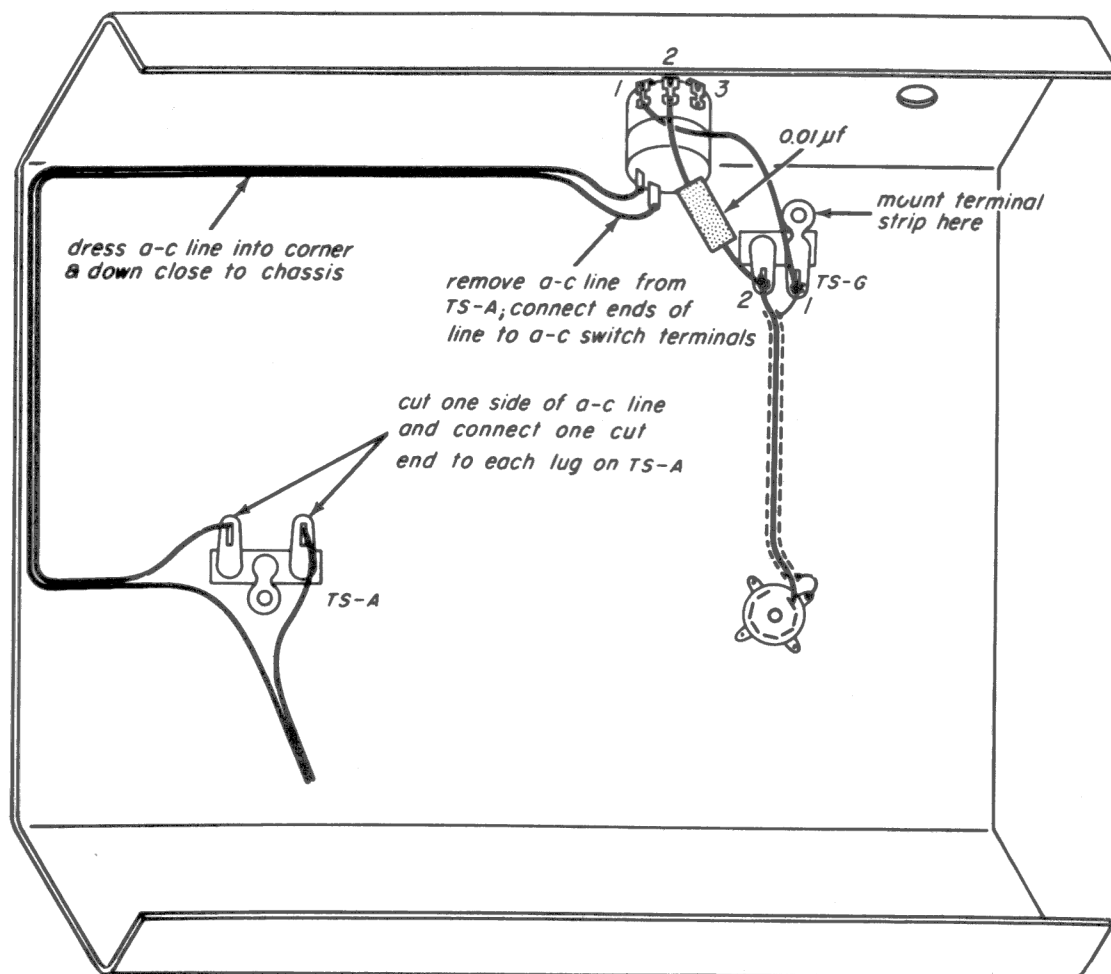

Fig. 26-11
Step 1. Mount a terminal strip of the type shown in Fig. 26-11 at the location indicated in the figure. This terminal strip will be referred to as TS-G. Label the terminal strip on your chassis.
Step 4. Remove the braided covering from each end of the piece of shielded lead that you received in Kit 13, using the method described in Experiment Lesson 2. Connect the center conductor of the shielded lead from lug 2 of TS-G to pin 1 of the 6AT6 tube socket. Dress the lead as shown in the figure. Ground the shield at both ends – at the ground pin near pin 1 on the tube socket, and at the ground lug at TS-G. Compare your chassis with wiring shown in Fig. 26-11 and